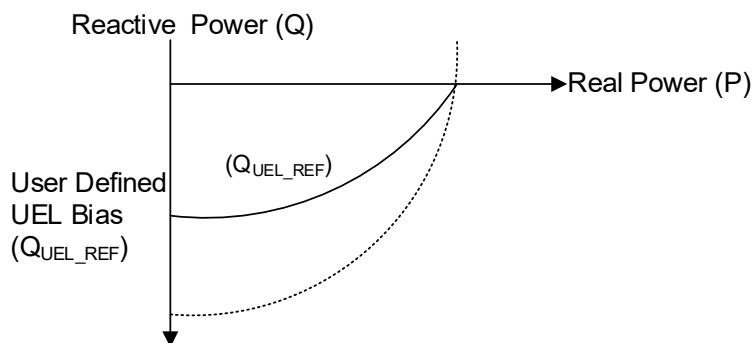

Figure 33-11. Underexcitation Limiter Reference
1. The internal UEL operating characteristic is designed to mimic the operational limits of the generator on the P-Q plane as illustrated in Figure 33-11. The UEL reference (Q_{UEL_REF}) is generated based on the user input parameter "UEL Bias (Q_{BIAS})" and the active power (P) as follows: